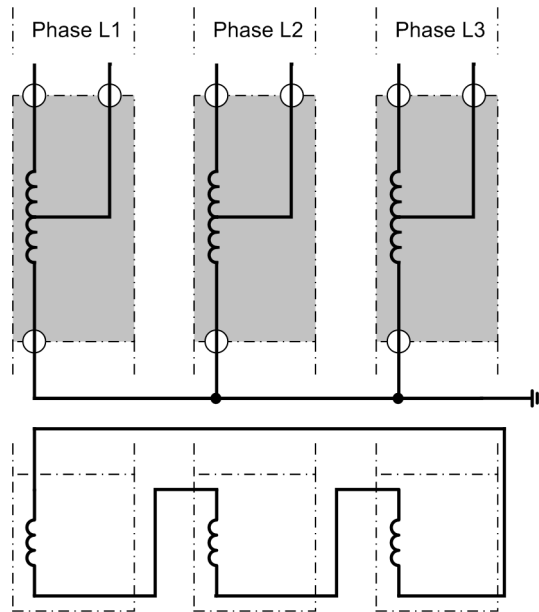

Figure 2-1 Transformer bank, consisting of 3 single-phase auto-transformers with current comparison via each single phase
- If three single-phase auto-transformers are arranged as a power transformer bank (see figure 2-1), the connections of the starpoint leads of the windings are accessible and often provided with current transformers. Here, it is possible, instead of a normal transformer differential protection via an entire power transformer bank, to realise three single-phase current comparison circuits via each auto transformer winding. In figure 2-1 the protected zone of each phase is shaded.